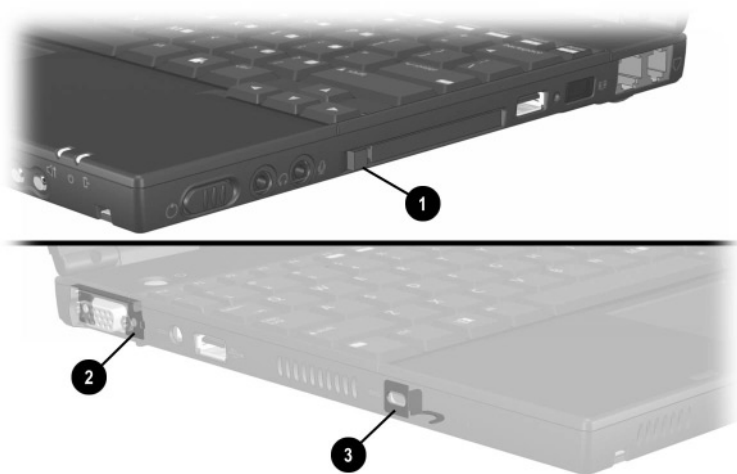

Figure 5-36. Installing the System Board
When installing the system board into the base enclosure, place the left edge of the system board into the base enclosure first to ensure that the PC Card eject button properly fits into the slot in the base enclosure ❶. Make sure the external monitor connector bracket ❷ and security cable slot bracket ❸ are in their proper locations (Figure 5-36).